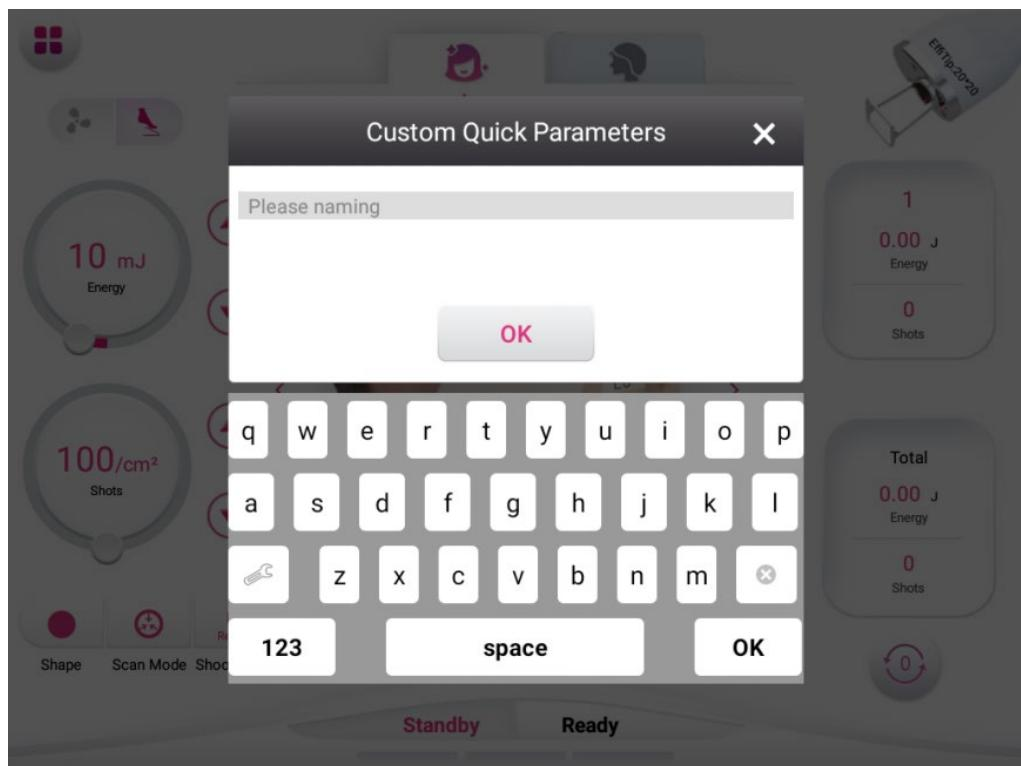

Figure 3-7
⑰**Save shortcut parameter:** Save the parameters at this time for direct recall later (Figure 3-7)